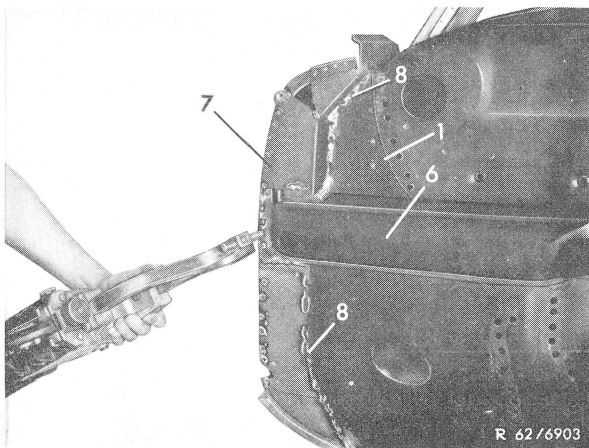

Figure 3
**18** Tack-weld front wall reinforcement (6) to connection sheet (7) and weld on (Fig. 3).